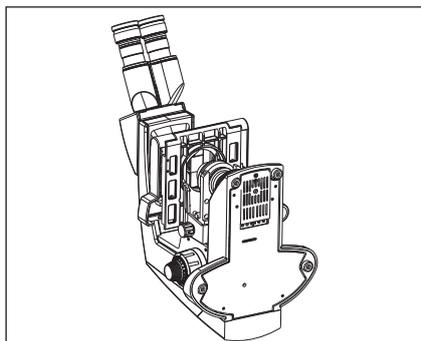

Fig. 1
2. To avoid potential electrical hazards when replacing either halogen bulb or LED, turn the microscope's main switch to the OFF position and disconnect power cord from wall outlet in advance. Whenever you replace your microscope bulb, allow lamp socket and bulb to cool before touching (Fig. 1)